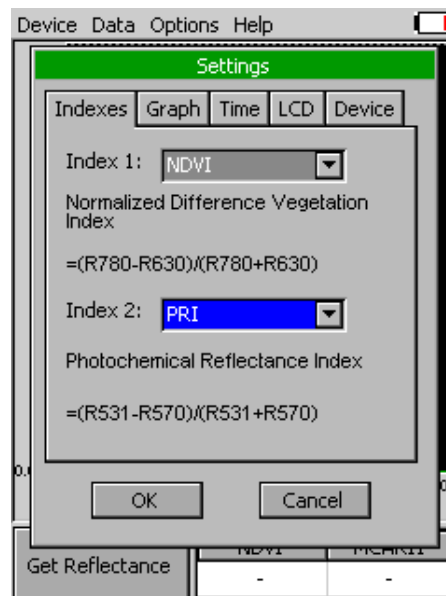

Fig. 9 Settings → Indexes
- **Settings** – function is used to set various variables for the light measurements and for the device settings (Fig. 9).